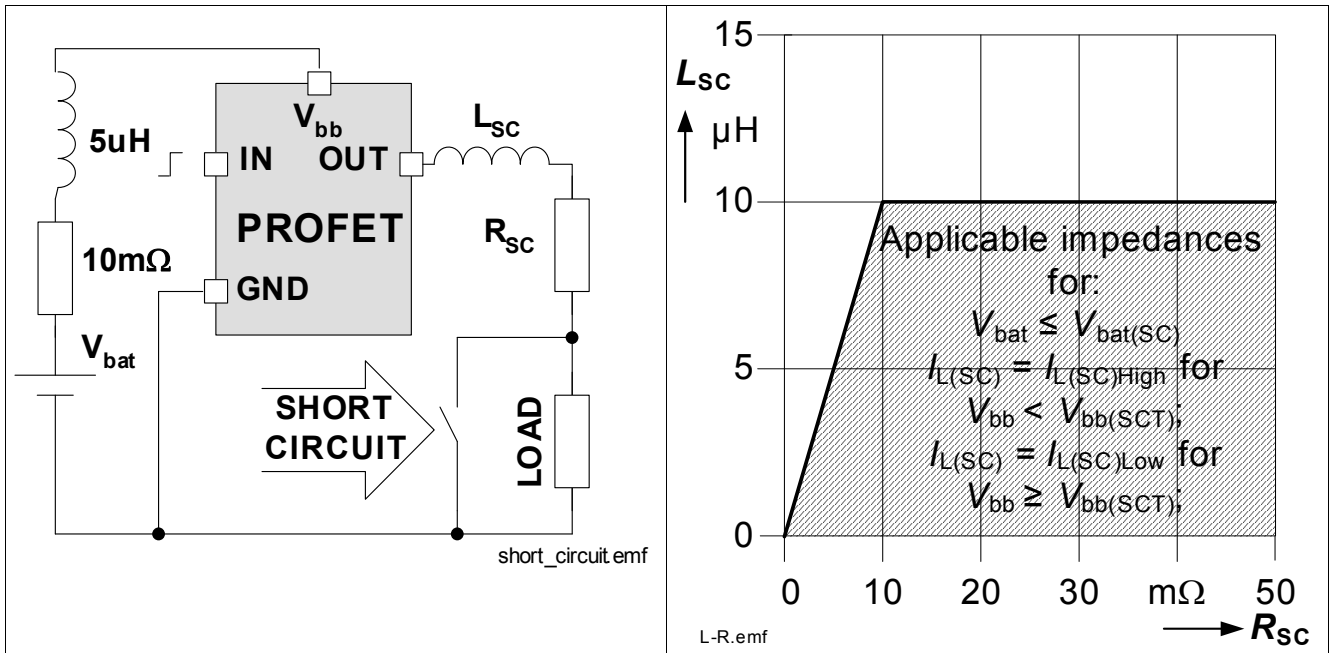

Figure 15 Short circuit
*Note: In case of a short circuit between OUT and ground, an impedance between  $V_{bat}$  and  $V_{bb}$  pin of the device (see Figure 15) may cause the device’s supply voltage to drop below  $V_{bb(u)}$  before short circuit shutdown threshold is reached. In that case, the device will detect an undervoltage condition and behave as described in Chapter 5.7.*
The capability to handle single short circuit events depends on the battery voltage as well as on the primary and secondary short impedance. Figure 15 outlines allowable combinations for a single short circuit event of maximum, secondary inductance for given secondary resistance.